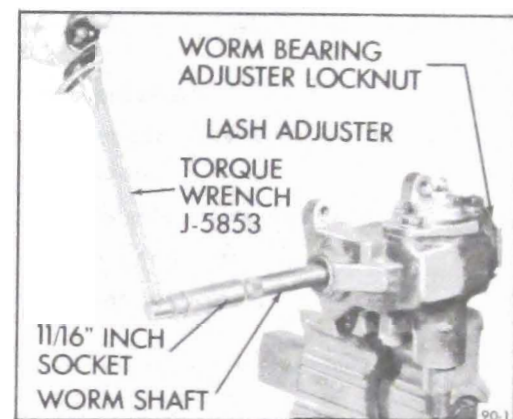

Figure 90-12 Checking Adjustments on Bench
2. Attach inch-pound torque wrench (J-5853) to worm shaft and rotate shaft to extreme right or left position. See Figure 90-12.